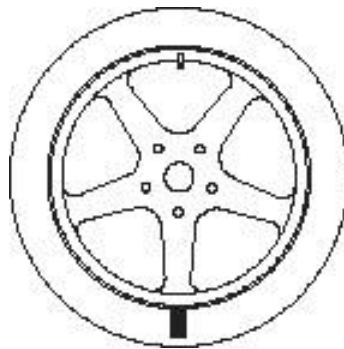

Fig. F5.6 - Marking the tire at 180° respect to the valve
5. Remove the wheel from the shaft, remove the tire bead, rotate it so that the mark is at 180° respect to the valve (see figure F5.6);